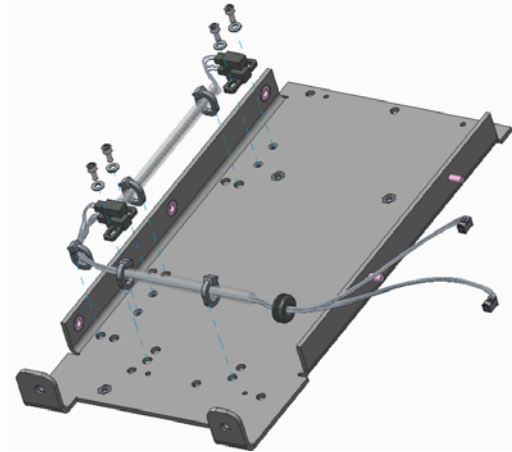

Figure 7-7 Have the home sensor facing upward on the workspace
6. Lift the side plate away from the pump module, observing that the wires are not caught on the pump module (Figure 7-7).
1. Orient the side plate as shown in the figure 7-7.
2. Note that there are two home sensors on the sensor harness, one at the end, and the other near the middle. Orient the end home sensor over the threaded holes closest to the top edge shown in the figure 7-7, with the wires oriented toward the bent edge of the side plate.
6. Position the clear plastic sleeve between the home sensor and the grommet over the holes in the side plate, as shown in the figure 7-7.